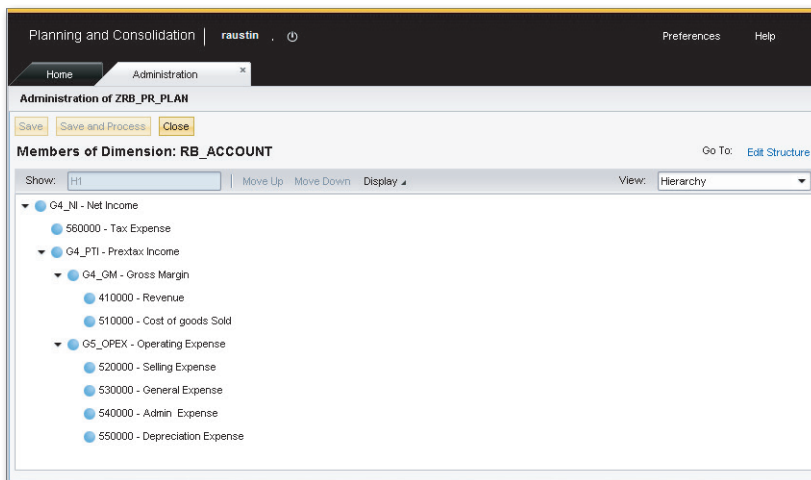

Figure 4.47 Loading Hierarchy Data from an InfoObject into a Dimension—Part F
8. In the final step, select the RUN option to run the package immediately. This will load the hierarchy data into the RB_ACCOUNT dimension. The hierarchy loaded into the RB_ACCOUNT dimension is shown in Figure 4.47.